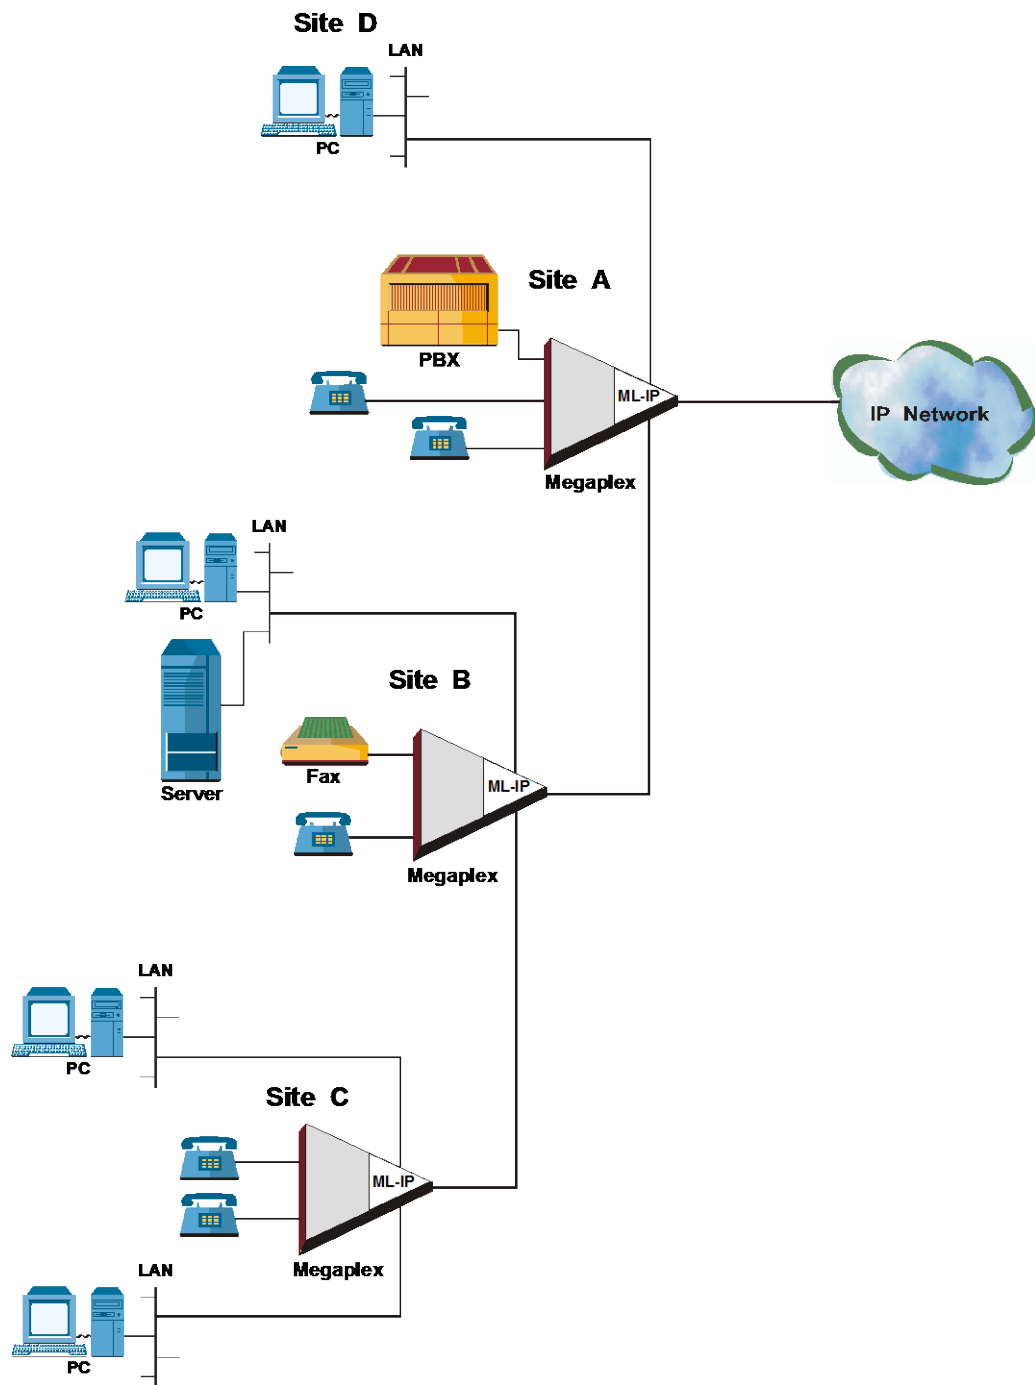

Figure 9-19. Maximizing Utilization of Connection to IP Network
*Figure 9-19* illustrates the approach used to maximize the utilization of the link to the IP network: daisy-chaining multiple Megaplex units.
The extended protection can be provided to up to 32 IP addresses, which are specifically defined by the user. The protected addresses are destination addresses for traffic connected to the ML-IP module through the USER port: this may be traffic from another ML-IP module (when the chained topology is used – see Figure 9-19), or from any other type of equipment using the ML-IP module to connect to remote sites.